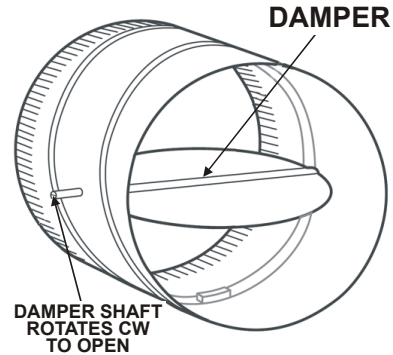
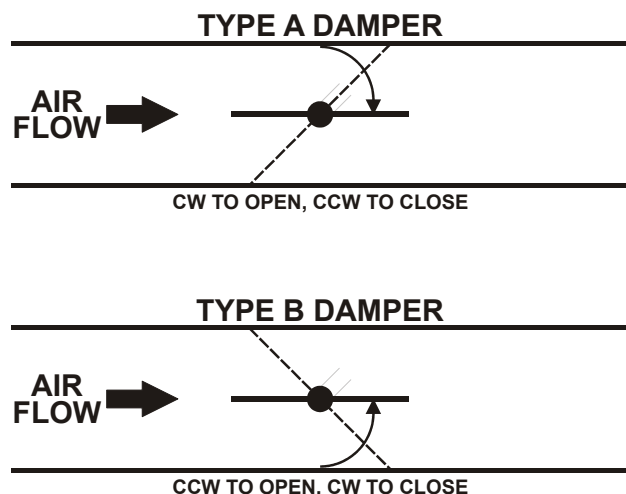

Fig. 2. Damper with 90° clockwise rotation to open
Fig. 3. Determining rotation direction (CW or CCW) for damper opening
Determine the damper rotation and opening angle prior to installation. See Fig. 2 and Fig. 3 for examples.
3. Determine the direction the damper shaft rotates to open the damper (CW or CCW) (see Fig. 3). Typically, there is an etched line on the end of the damper shaft indicating the position of the damper. In Fig. 2, the indicator shows the damper open in a CW direction.
4. Determine the damper full opening angle (45, 60, or 90°). In Fig. 2, the damper is open to its full open position of 90°.